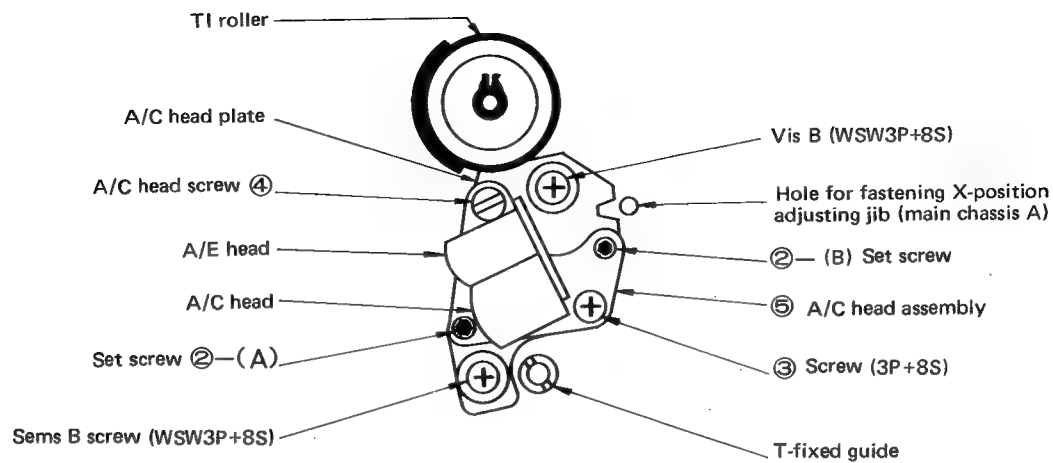

Figure 7-23.
- If the tape does not travel properly, perform the following (see Figures 7-23 and 7-25).
- 4) If the above requirements are not met, make adjustment with screws (2)-A and (2)-B. Turn them little by little.
- 7) Set the tracking control at its preset position. Loosen two sems B screws (WSW3P+8S) (see Figure 7-23)